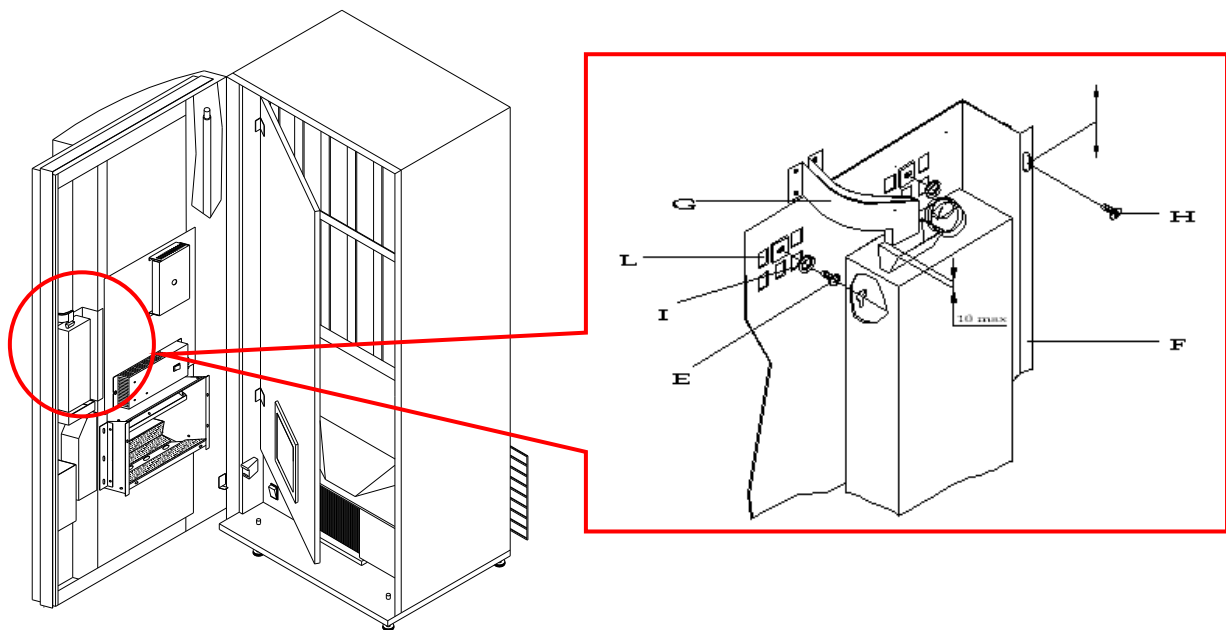

FIG 3.4
Hook the coin mechanism on 3 screws suitably placed (E) on the door (F) (fig. 3.4). Check that the coin mechanism has the coin entrance in line with the exit of the curved channel (G) and that the distance between the two parts is around 10 mm maximum. The mentioned distance is simply adjustable by loosening the 3 fastening screws (H) on the door and therefore moving it upwards or downwards. After doing this operation remember to tighten the screws again.